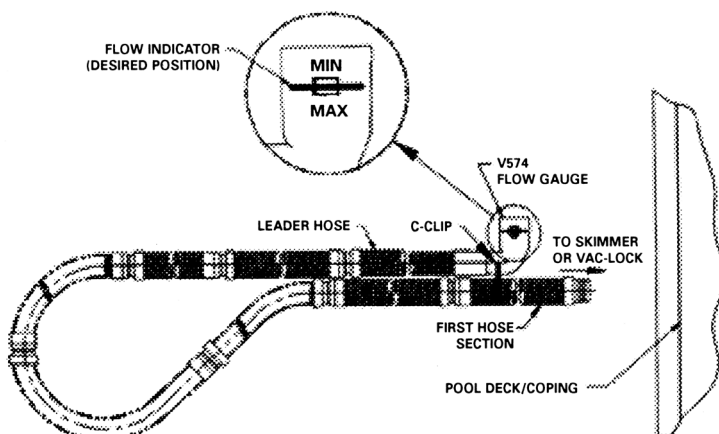
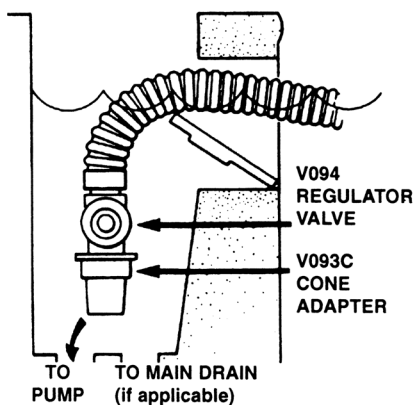

Figure 2
Figure 4
The hose should reach from the skimmer or Hayward Vac Lock® to the furthest point in the pool, **plus two (2) extra hose sections**. (The length of each hose section is four feet.) **This extra length is absolutely necessary for proper operation of your Hayward Cleaner.** If the hose is not long enough, it will be necessary to purchase additional hose sections from your Hayward dealer. The hose length supplied has been determined to be sufficient for the class and size of pools for which each type of cleaner is sold – 40 feet for PV XL & NAV Pro, 32 feet for PV Classic. If your hose requirement is more than this, you must obtain additional hose sections for your cleaner to work properly. After the correct hose length has been assembled, fill hose completely with water. Insert Flow Gauge into the leader hose, then attach the C-Clip of the gauge onto the first hose section. Make sure the Flow Gauge is under water. (see Figure 2)
Check the water flow reading on the Flow Gauge. (Refer to Step 4, Figure 2). The black disk should be in the box between the “MIN” and “MAX” markings. If the setting is higher than required with the black disk outside of the box on the “MAX” side and you have connected your hose to the skimmer, it will be necessary to reduce the vacuum/water flow by using a valve or valves in the filter system, or the Hayward V094 Regulator Valve or an optional Hayward Automatic Skimmer Vacuum Plate designed to adjust vacuum/water flow. To install the V094 Regulator Valve, turn the filter system off, remove the hose from the V093C Skimmer Cone, and after closing the Regulator Valve (Rotate the blue collar clockwise until tight), insert the Valve into the Skimmer Cone, and insert the hose end into the Valve (see Figure 4).
If you have connected your hose to the Hayward Vac Lock, it will be necessary to adjust the vacuum/water flow using the 3-way valve at the filter system. The handle on the valve should be turned so that the Flow Gauge which is installed in the Cleaner hose reads properly (*refer to Figure 2*). After the 3-way valve has been properly adjusted, **the 3-way valve should be marked so that the water flow can be adjusted by referring to the valve handle mark**, rather than reinstalling the Flow Gauge in the hose each time an adjustment is necessary.
Some skimmers have two (2) holes in the bottom. There might be a valve, float or cover over the holes. Remove everything in the skimmer, exposing the holes. The rear hole is usually the suction port. In some cases it will be necessary to use the V094 Regulator Valve to control water flow through the Cleaner (*see Figure 4*).